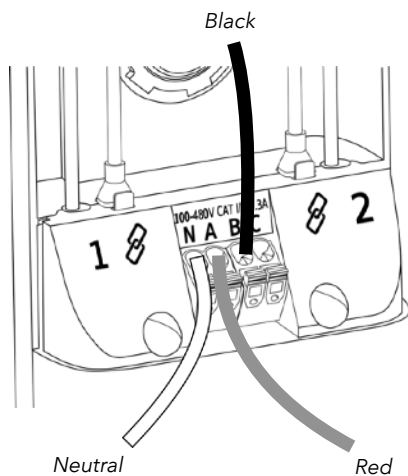

Fig 9
- Split Phase Panel. **Fig 9.**